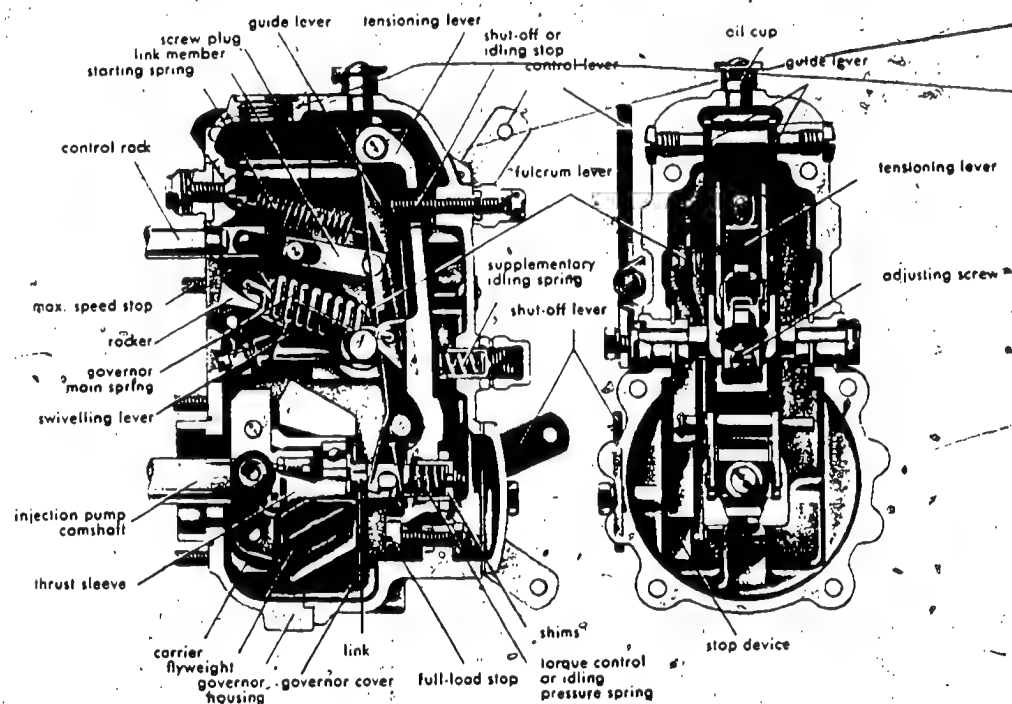

Figure 1 Governor EP/RSV
G) Variable range speed governor, type EP/RSV (Fig. 1)